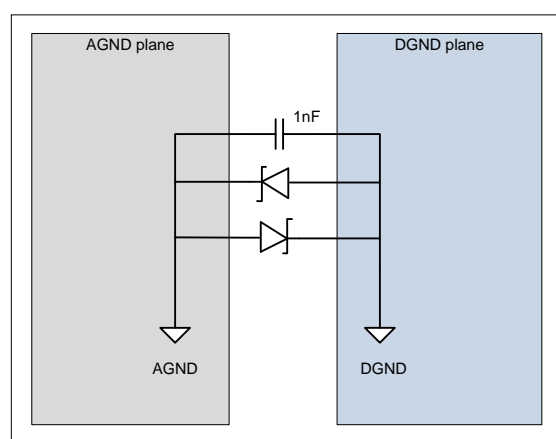

Figure 23: Grounding scheme
- ♦ Leave spacing for a ceramic 1 nF bypass capacitor + two parallel and inversed Schottky diodes near each PoE Manager (Figure 23) between the analog and digital layers. The capacitors form low impedance paths for digital driving signals